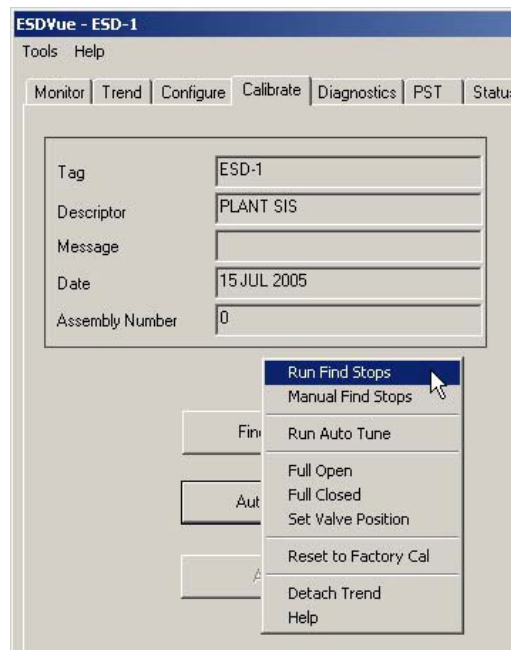

Figure 323 - Selecting Run Find Stops
1. Right-click and select **Run Find Stops** (*Figure 323*).